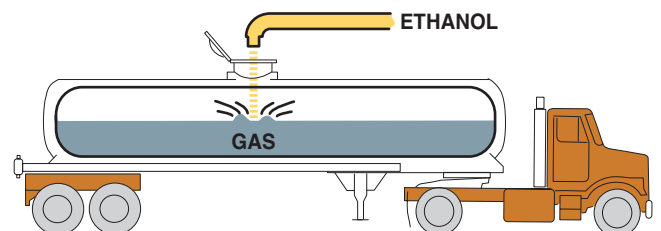

FIGURE 5-14 Splash blending occurs when the ethanol is added to a tanker with gasoline and is mixed as the truck travels to the retail outlet.
3. **Splash blending.** Splash blending can be done at the retail outlet or distributor and involves separate purchases of ethanol and gasoline. In a typical case, a distributor can purchase gasoline, and then drive to another supplier and purchase ethanol. The ethanol is then added (splashed) into the tank of gasoline. This method is the least-accurate method of blending and can result in ethanol concentration for E10 that should be 10% to range from 5% to over 20% in some cases. ● **SEE FIGURE 5-14.**